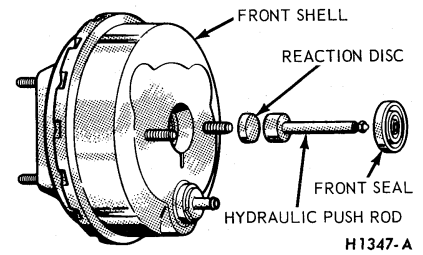

FIG. 21—Installing Reaction Disc, Push Rod, and Front Seal
12. Center the reaction disc on the push rod piston. Guide the disc and push rod into the base of the diaphragm plate, and press the rod inward until the disc is bottomed (Fig. 21).
13. Press a new front seal into the front shell until it bottoms in the recess (Fig. 21).